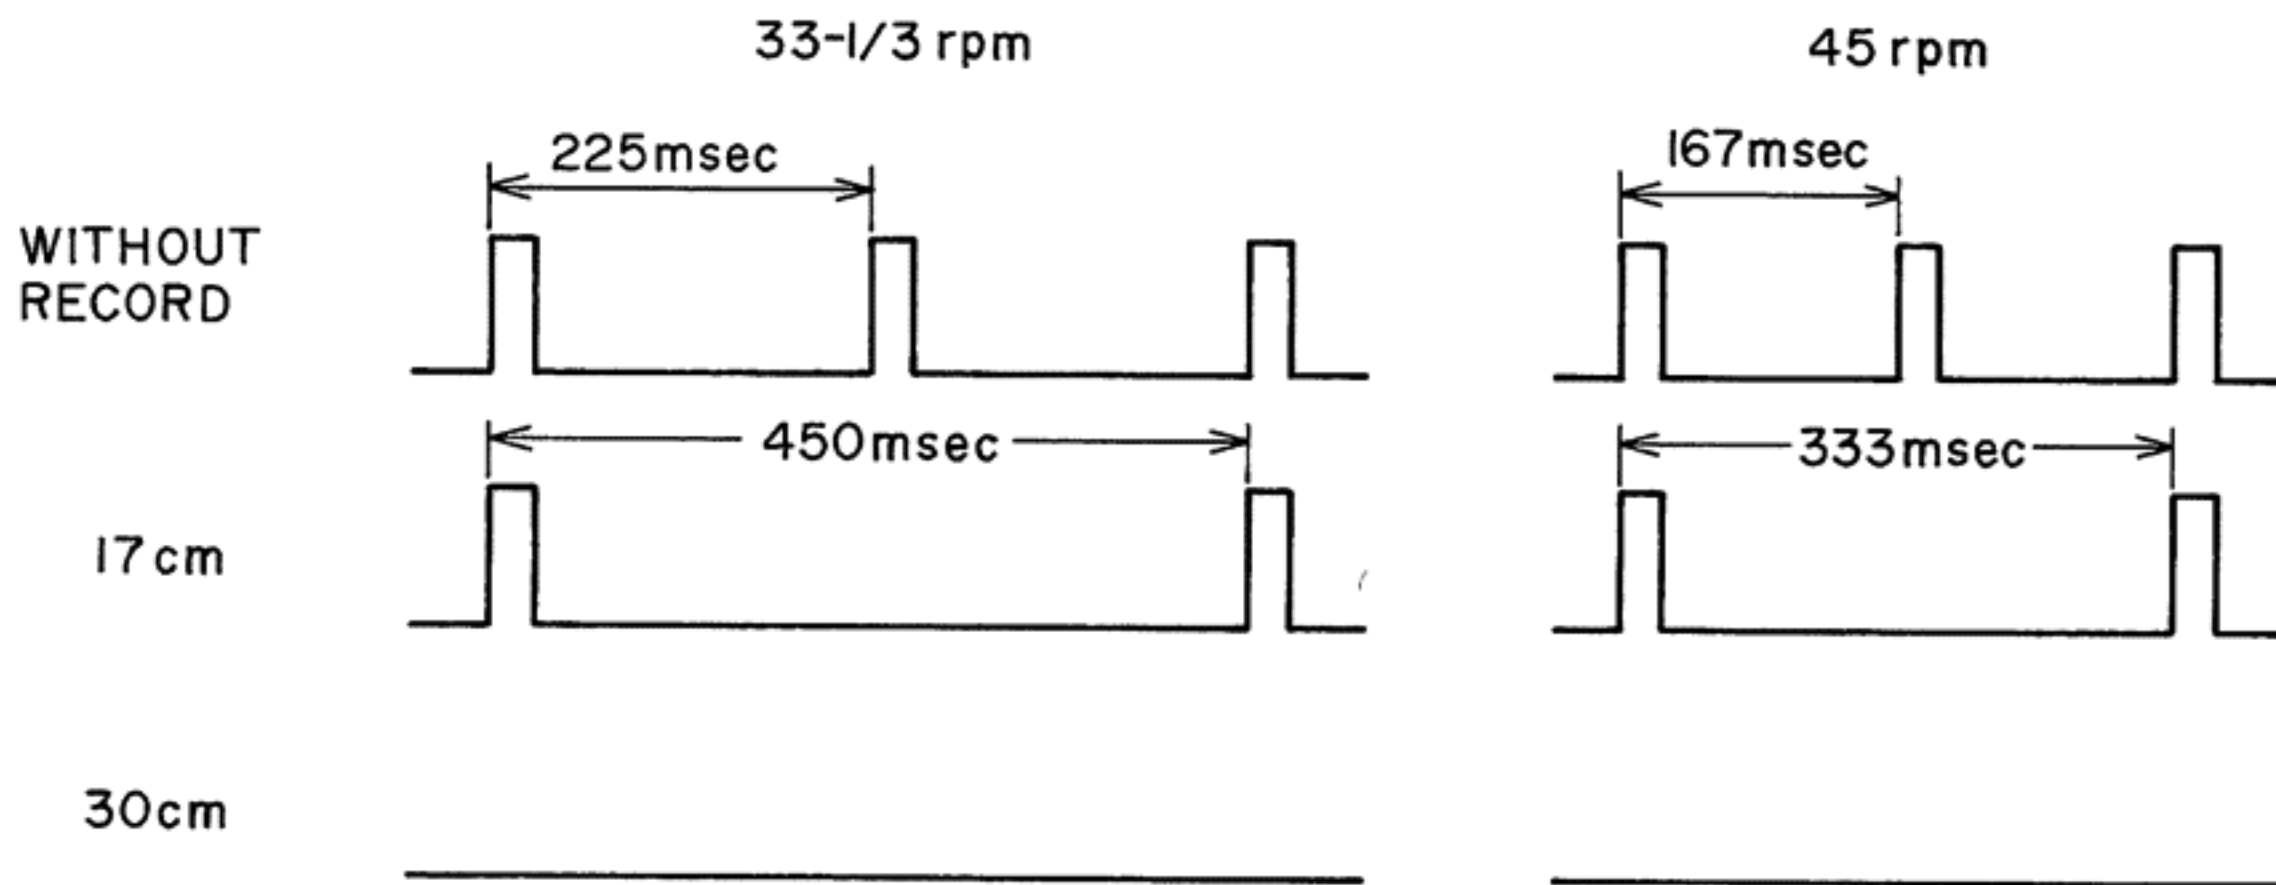

Fig. 15 Wave-form of each Record Size
6) The following describes how to judge the record sized with the waveform shaped signal according to Fig. 15. Detection of record size starts when the "QUARTZ LOCK ON" signal has entered CPU. This timing coincides with the time when the lamp is lit. Record size detection is completed when the lamp is turned off. When the record size is 30 cm, absolutely no pulses enter into the CPU, but when a 17 cm record is set, pulses always enter, if waited for more than 450 msec.
When no record is set, the next pulse always enters if waited for 225 msec. or longer. Fig. 15 clearly shows it.